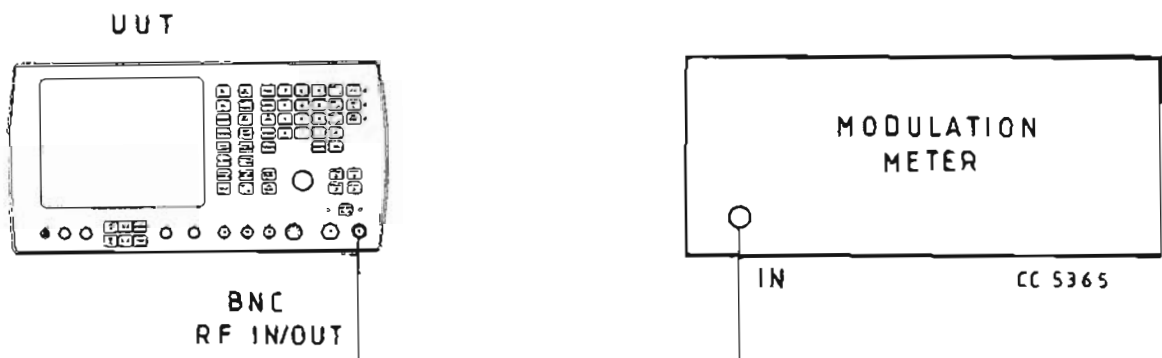

Fig. 26 Test equipment connections for r.f. generator f.m. on c.w. performance checks
- (1) Connect the equipment as shown in Fig. 26.